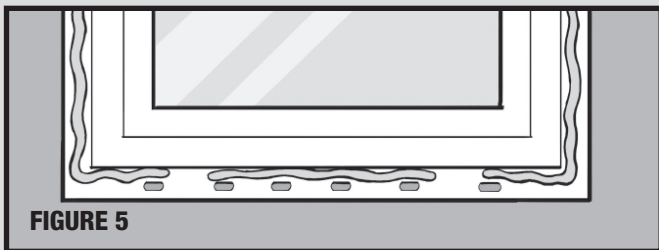

FIGURE 5
3.2.1. Apply a continuous bead of TeQ::Seal™ Window Flange Sealant to the interior side of the nailing fin, on jambs and head flanges and an intermittent bead on the sill flange. (Figure 5)
2.2. These marks are important to set the flashings in place correctly. Also, make a mark on the face of the wall 6" up from the sill as shown and a mark on the jambs 6" up off the sill. (Figures 5 - 7)